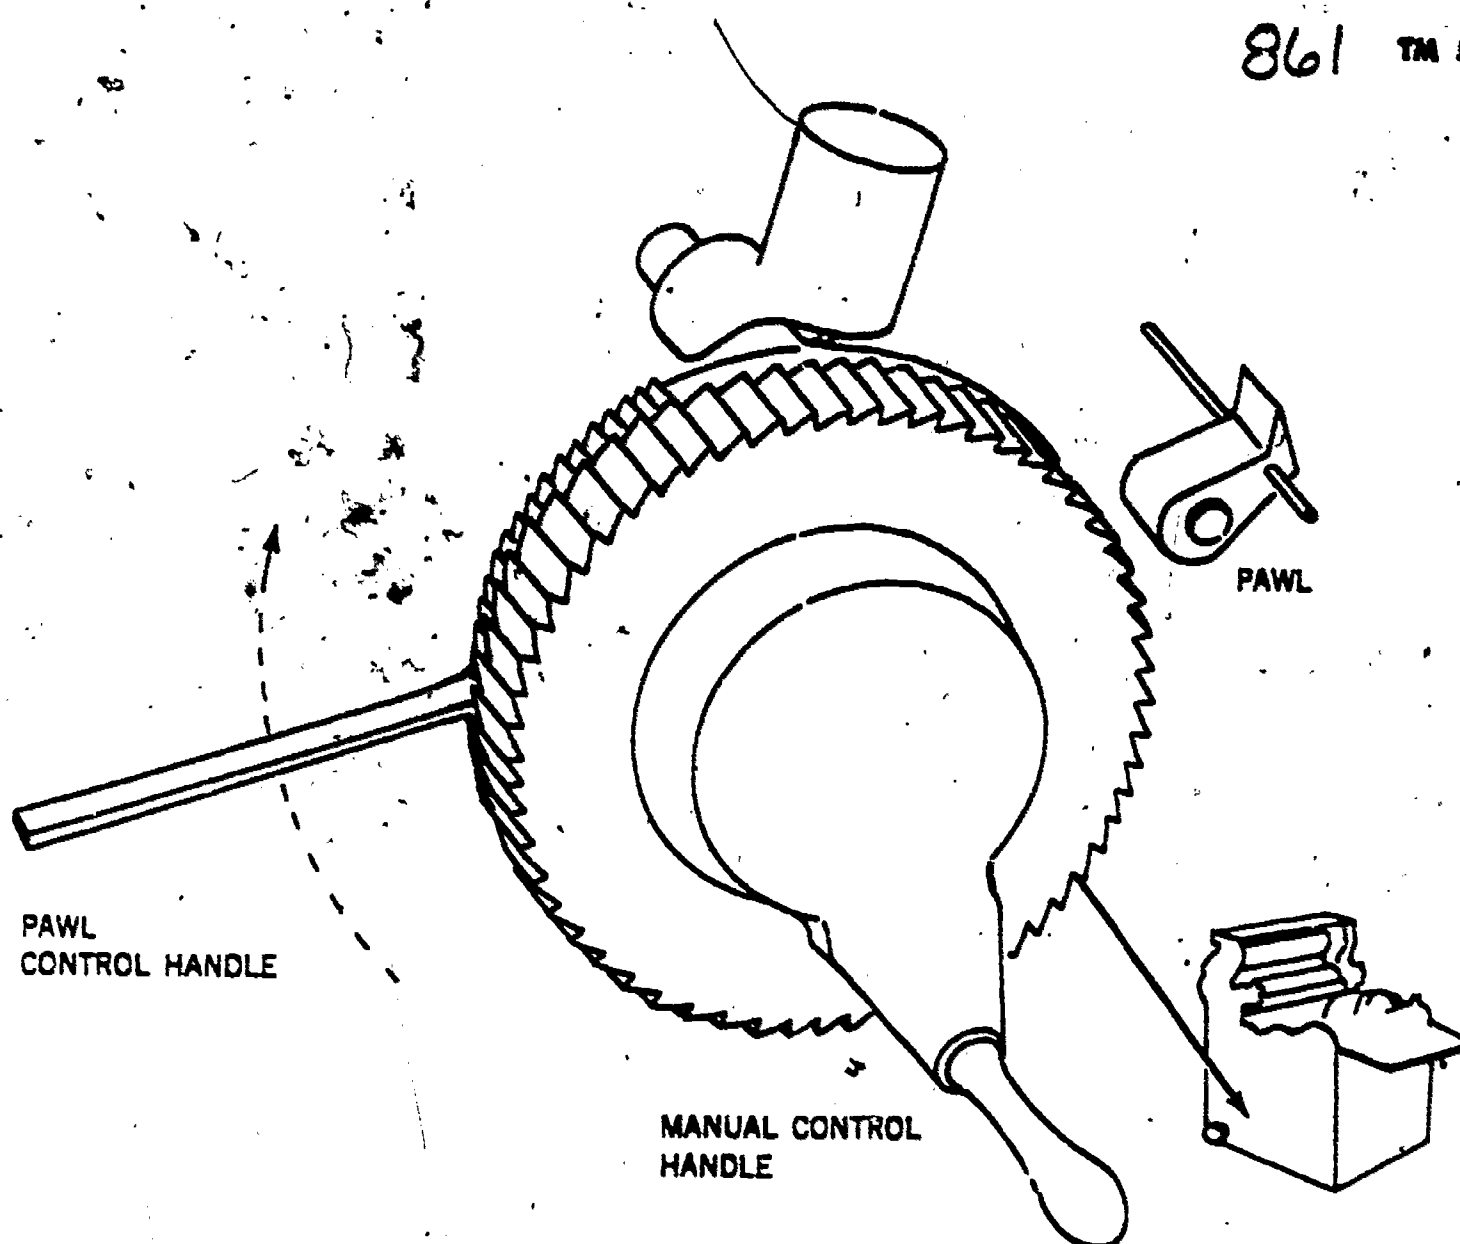

Figure 8-20. Delivery board lowering mechanism.
Automatic pile receder.	Allows the delivery board to lower automatically at a rate of speed determined by a pawl and ratchet attached to the manual handle (fig. 8-20).
Manual control handle.	Used to lower (or raise) the delivery board manually (fig. 8-20).
b. *Setting Automatic Pile Receder.* To adjust the automatic pile receder (fig. 8-20), engage the pawl and raise the pawl control handle to the desired position. The higher the handle is raised, the greater the rate at which the delivery board will lower. The thicker the stock, the greater the lowering rate at which the delivery board must be set. The feeder valve must be closed in order to make the automatic pile receder operate.